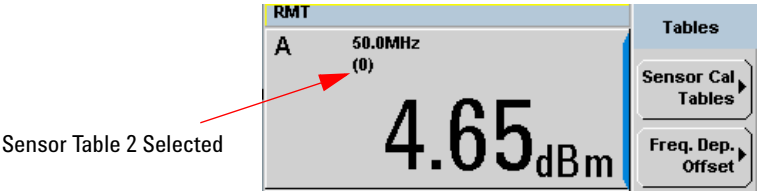

Figure 7-129 Frequency dependent offset indicator
- 4 Press **Done** again to display the measurement screen. Figure 7-129 shows which offset table is selected.